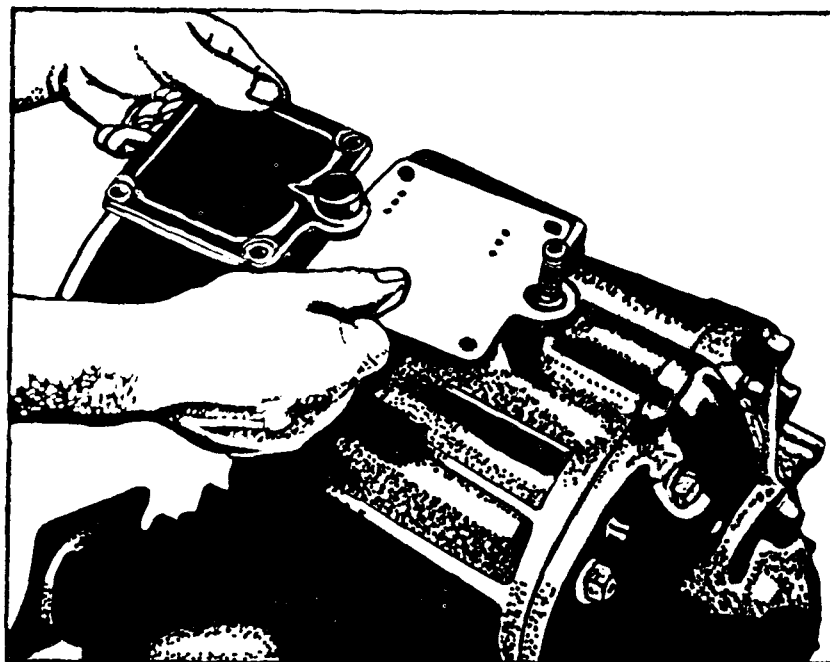

Figure 58 -Removing Transfer Case Breather
(1) Clean the exterior surfaces of the breather cover and the top of the transfer case around the cover with dry-cleaning solvent.
(2) Remove Breather Parts. Remove the cap screws and lock washers holding the breather cover to the transfer case, then lift the breather cover, breather plate, and gaskets from the transfer case. The transfer case shift rail poppet ball and spring are held under the cup on the end of the breather cover, and care must be exercised when removing the cover to prevent the loss of the poppet parts (Fig. 58 ).
(3) Cleaning Breather. Immerse the breather cover and the breather plate in dry-cleaning solvent, and scrub until thoroughly clean. Be sure that all the holes in the cover and the plate are clear. After these parts are clean, dry them thoroughly with compressed air.
(4) Install Breather. Check to see that the poppet parts are in place before installing the breather. Then install a new gasket over the breather opening at the top of the transfer case. Then place the breather plate over the gasket with the breather holes towards the right side of the case. Place another new gasket over the breather plate, then install the breather plate cover. It will be necessary to force the breather cover down against the compression of the poppet spring while the cap screws and lock washers are installed. Be sure that the breather holes in the breather plate are on the opposite side of the breather holes in the breather cover.